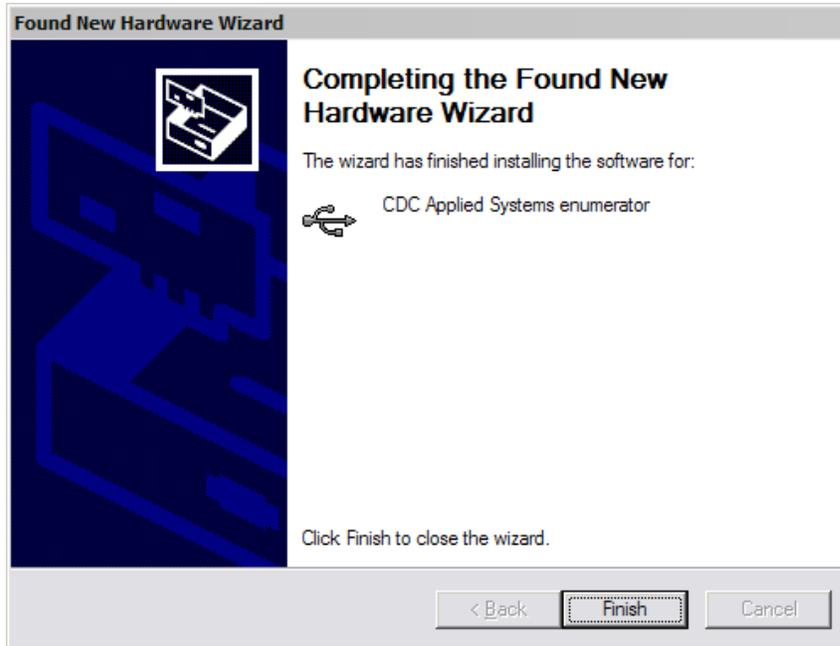

Figure 6
7. Select “Finish” to proceed with the next phase. The same sequence of steps as illustrated in Figure 2 through Figure 6 will be repeated to install the “enumerator” for the second BCOM-USB port.
8. When the “enumerator” for the second BCOM-USB port has completed, the same screen as shown in Figure 6 will be displayed.